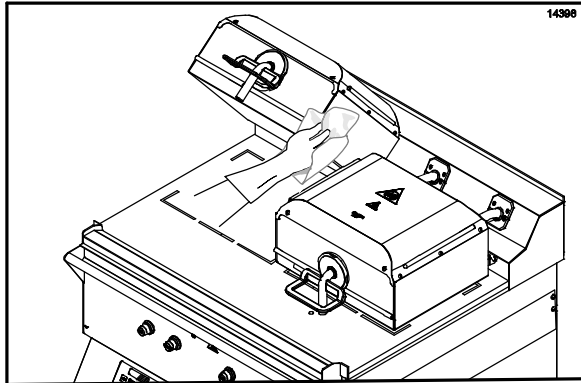

Figure 91
31. Rinse the inner edges of both platens with a clean, sanitizer-soaked grill cloth. (See Figure 91.)